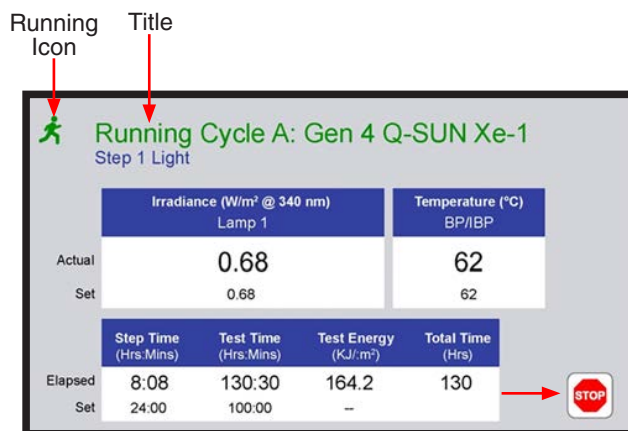
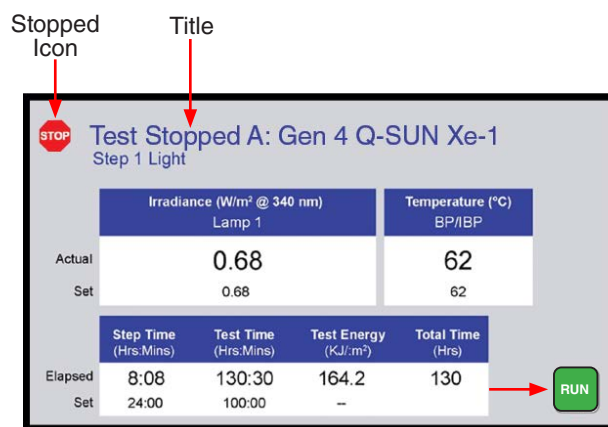

Figure 11.2b: Status icon and title when test running.
Figure 11.2c: Status icon and title when test stopped.
- A colored icon and title at the top of the screen indicate the overall status of the test (Figure 11.2b, Figure 11.2c).